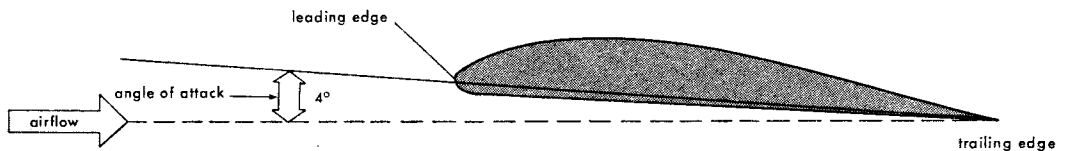

Fig 5 Angle of attack
5. The aerofoil shape will not produce lift or thrust under all circumstances but it does encourage a smooth airflow and becomes effective as a lift or thrust producer when it is inclined at an angle to the airflow. This angle is called the 'angle of attack' and gives best results at about 4° (Fig 5).